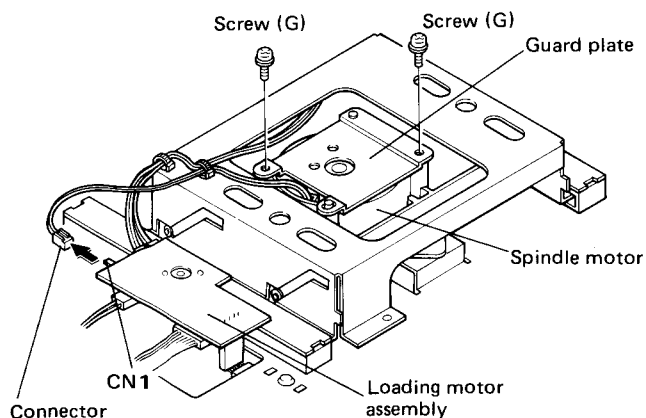

Fig. 18
6. Disconnect CN1 on the loading motor assembly. (Fig. 18)
7. Remove the screws (G), then detach the guard plate and the spindle motor. (Fig. 18).